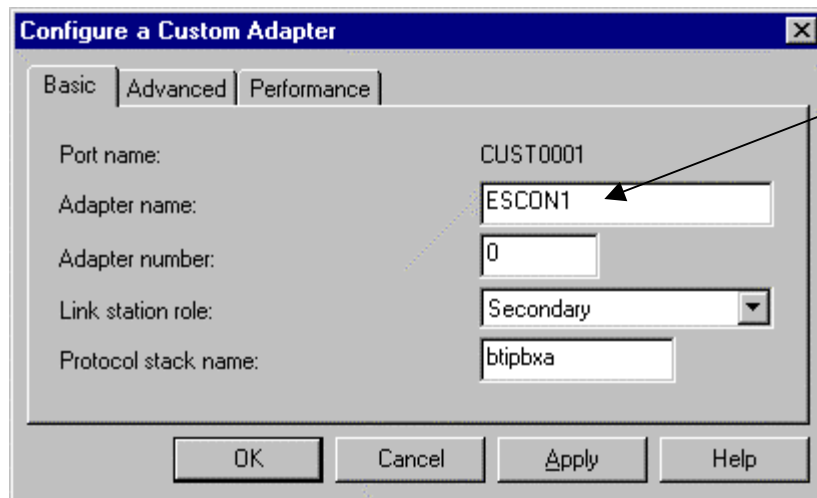

Figure 16-21. Adapter Properties
2. Double click the custom adapter (or click View/Change/Add). The adapter’s properties screen will display (Figure 16-21). Make note of the Adapter name.